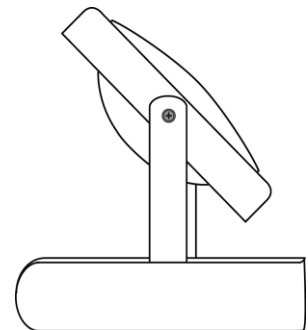

Figure 1
- 5) Place the new lamp on the bracket. See Figure 1.
- 4) Remove the support bracket from the fixture and place the lamp on the bracket. See Figure 1.